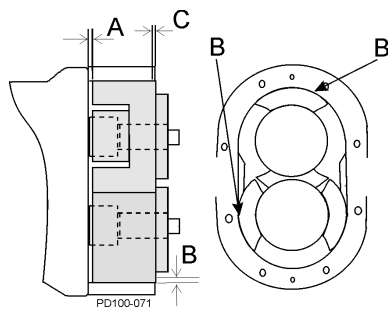

Figure 87 - Measure Clearance
9. Measure the rotor backface clearance (Figure 87, item A) through the port or from the front. The backface clearance for both rotors must be the same to prevent rotor crossover contact and must be ± 0.0005 \"/>
10. Check the rotor front face clearance (Figure 87, item C).
11. Check the rotor to body clearance (Figure 87, item B).